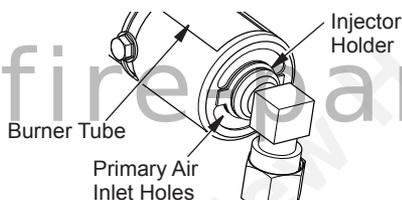

Figure 37 - Injector Holder On Outlet Burner Tube
2. Inspect burner, pilot and primary air inlet holes on injector holder for dust and dirt (see Figure 37, page 30).